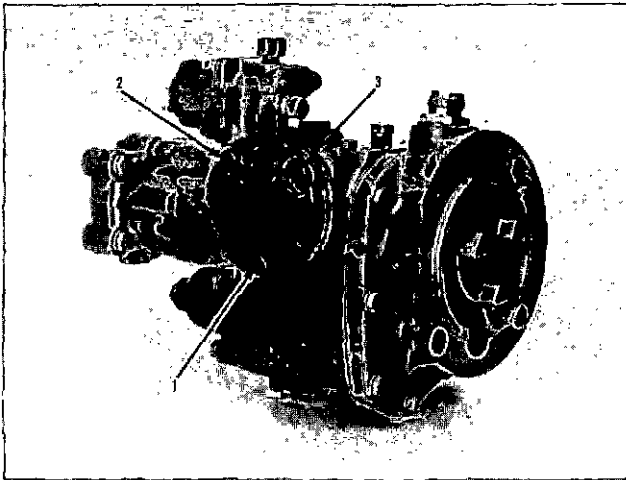

Fig. 16, The actuator capscrew torque sequence.
- a. Tighten the mounting capscrews 1/8 of a turn, in the sequence shown in Fig. 16, until they are seated.